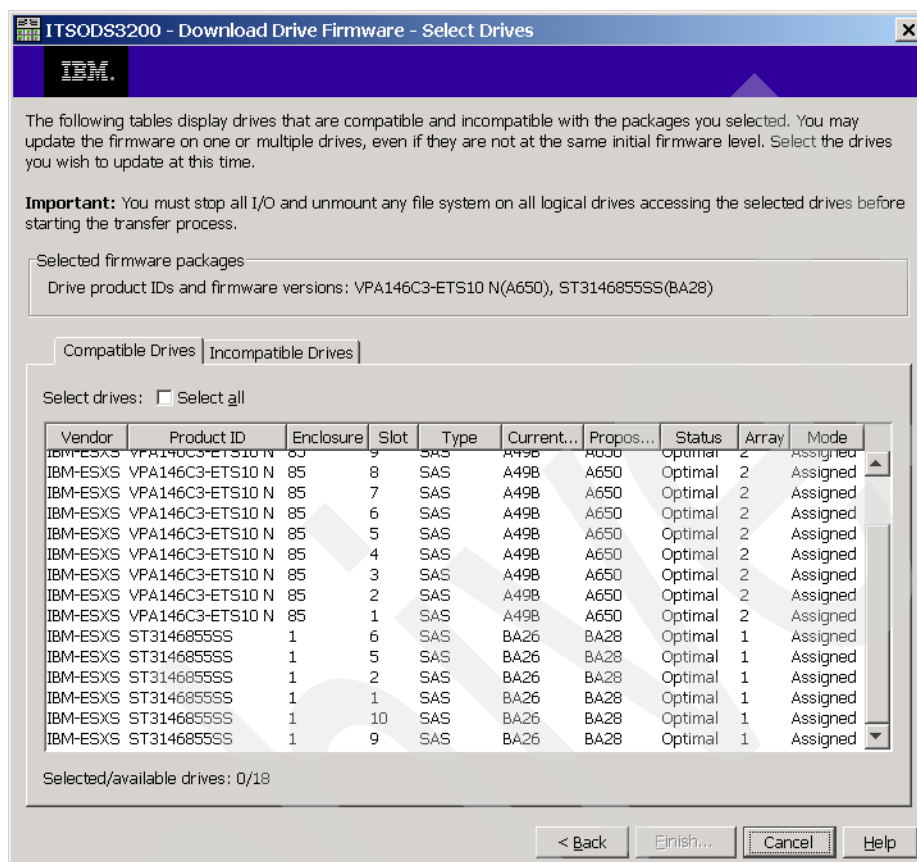

Figure 14-30 Compatible drives which can be updated
- Now you have to select the drives in the subsystem you want to update (Figure 14-30). You see the compatible drives only in this window. Check **Select all** to update all compatible drives.